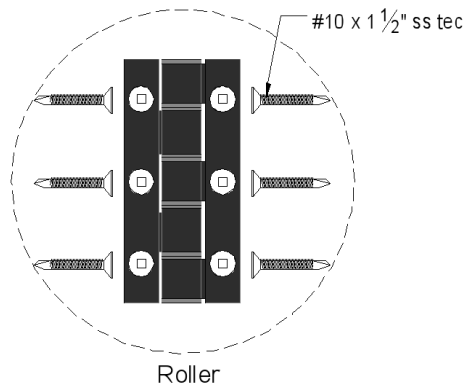

FIG 6.
- Attach the top and bottom rollers to the panel (make sure rollers are set to the correct dimension as per page 4 FIG 4.) using screws provided (See FIG 6.). Make sure that the roller hinges are set 2 3/8" (60mm) from the bottom of the panel and 2 3/8" (60mm) from the top of the panel.